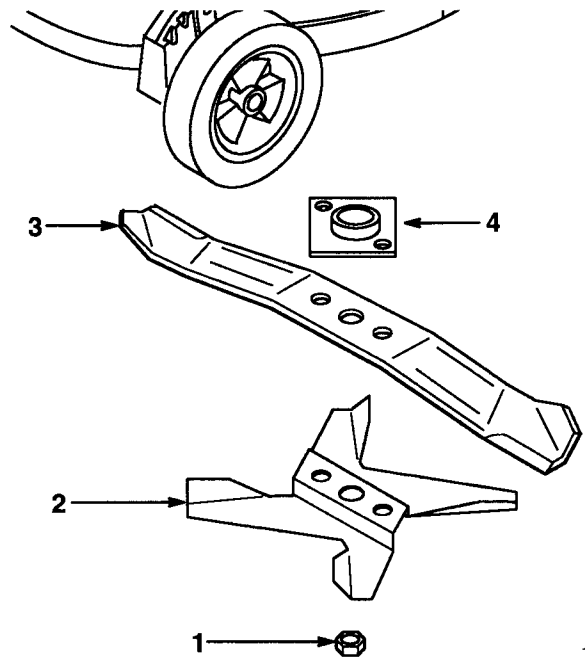

Figure 25
1. Remove blade nut and mulching fan (Fig. 25).
2. Remove blade from blade driver (Fig. 25).
1. Install blade driver onto crankshaft (if removed) (Fig. 25).